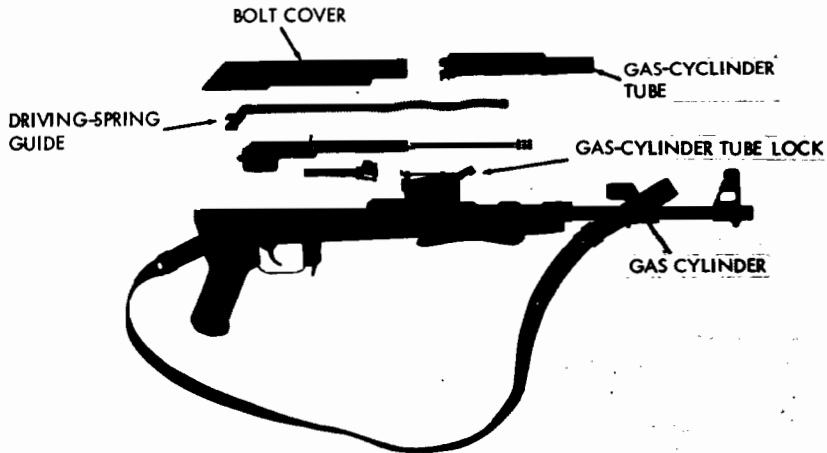

Figure 32. AK-47 assault rifle, field-stripped.
f. Rotate the gas-cylinder tube lock (fig. 32) upward to free the gas-cylinder tube. Remove the tube by pulling up on the rear of the hand guard.
h. To reassemble, first engage the front opening of the gas-cylinder tube with the gas cylinder (fig. 32), and then seat the rear of the tube into the rear-sight base. Rotate the gas-cylinder tube lock down to its locked position.